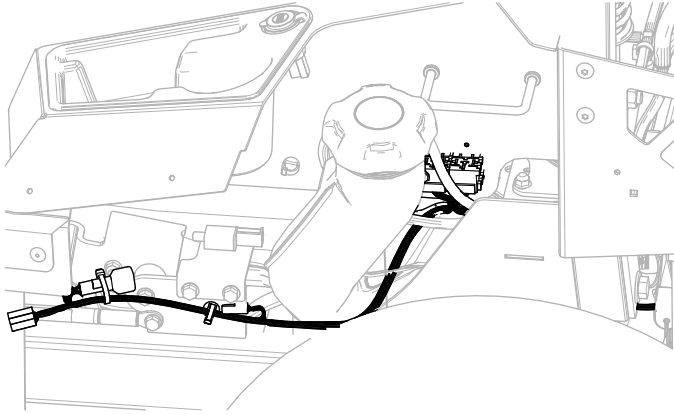

Figure 14
2. Route the wire harness (Figure 14) along the left side of the frame, through the push-mount fastener you installed in step 1.